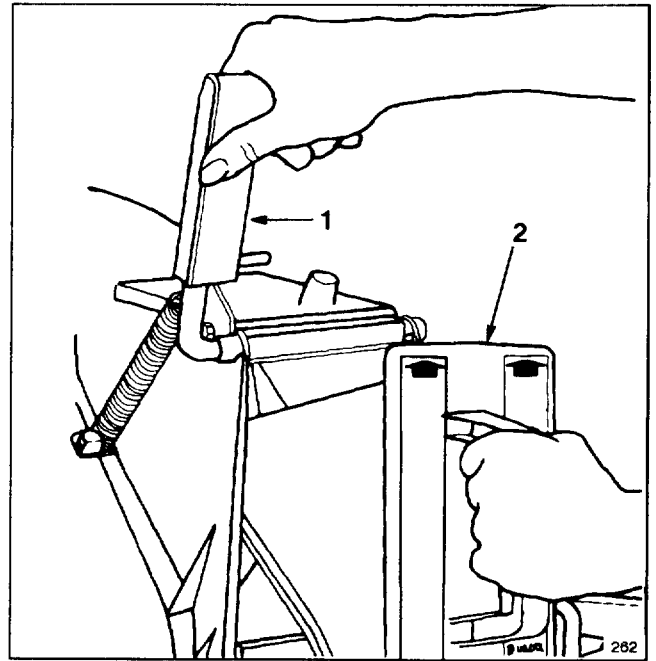

Figure 2
2. Open the discharge door by pulling forward on the handle and moving it rearwards (Fig. 2). Hold the discharge door handle to prevent the spring-loaded door from closing while inserting the plug.
3. Since the plug is slightly wider than the discharge tunnel opening, rotate the plug clockwise slightly while inserting it (Fig. 2). Make sure the arrow on the plug decal is pointing upwards.